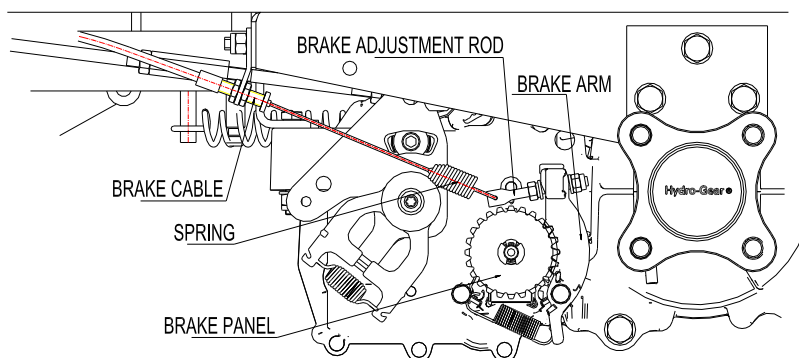

FIG 8 Brake Adjustment
c) See FIG 8. Gears in the brake arm meshed into the gears of the brake disk. Adjust the nut on the spring adjustable lever. Ensure that the spring has an extension of 1/2"(12mm) when it is in the free state. Use the same method to adjust the brake adjustable lever.